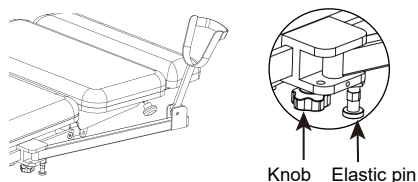

Figure 16
- Insert the stirrups bracket into the side stainless steel guide rail and tighten with the bottom knob.(Figure 16)